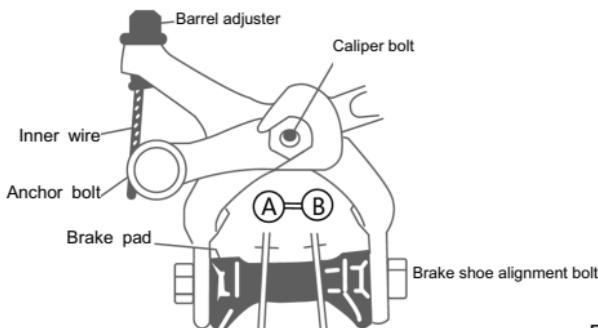

Figure 8
- c. Both pads should have the same distances to the wheel rim, about 1-2 mm. They can be adjusted with brake shoe alignment bolts. (Figure 8)